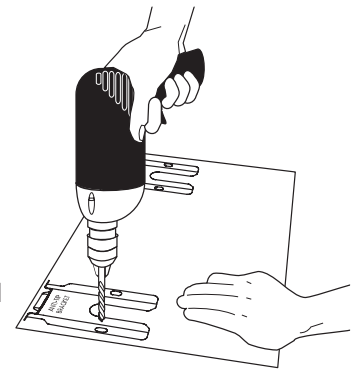

Fig. 6
- b. **Drill pilot holes & fasten bracket** - Drill 1/8" pilot hole where screws are to be located (Fig. 6). If bracket is to be mounted to the wall, drill pilot hole at an approximate 20° downward angle. If bracket is to be mounted to masonry or ceramic floors, drill 3/16" pilot hole 1-3/4" deep.